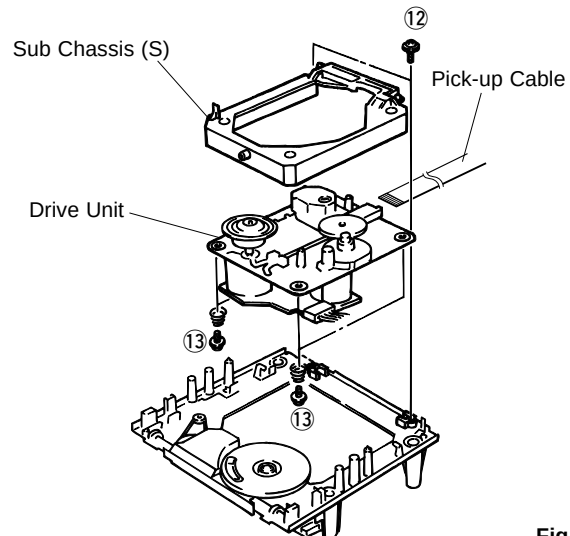

Fig. 6
- Remove 2 screws (⑫). (Fig. 6)
- Remove a pick-up cable. (Fig. 6)
- Remove 4 screws (⑬) and then remove the Drive Unit. (Fig. 6)